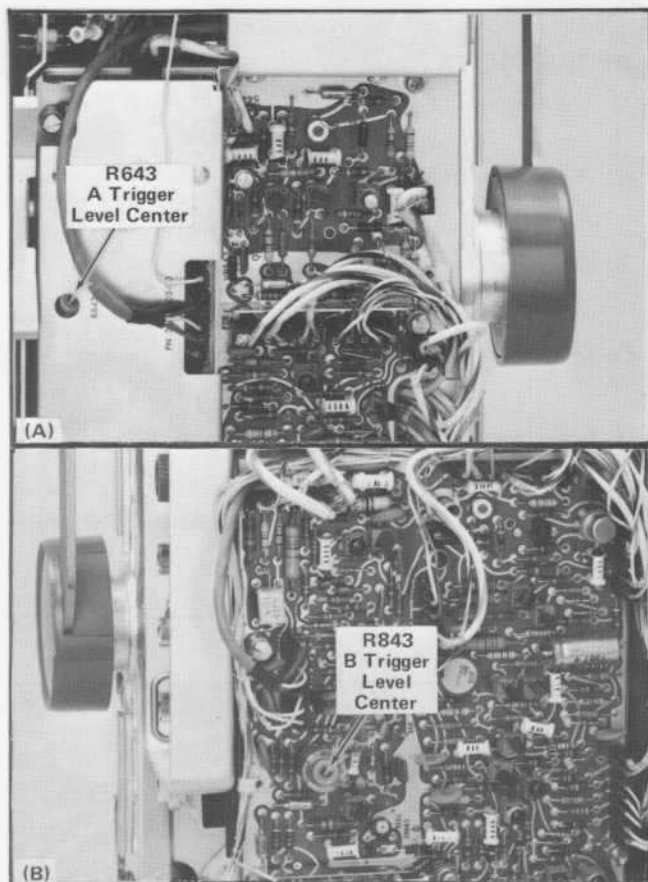

Fig. 5-14. (A) Location of A Trigger Level Center adjustment (A Sweep circuit board). (B) Location of B Trigger Level Center Adjustment (B Sweep circuit board).
f. ADJUST—A Trigger Level Centering adjustment R643 (see Fig. 5-14) for a stable display.
j. ADJUST—B Trigger Level Centering adjustment R843 (see Fig. 5-14) for a stable display.